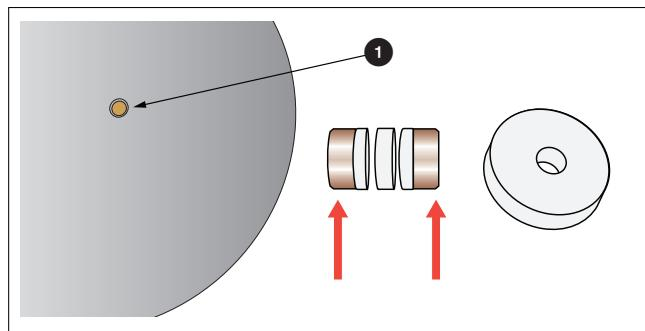

Figure 7. Stem Vee Placement and Packing Material
1. Install the retaining nut onto the new stem vee and install the new stem vee. Make sure that the stem vee is flush to the top (Figure 7, ①). Note the order of the packing material and take note of the chamfer orientation. These items will be reassembled in the same order. See Figure 7.